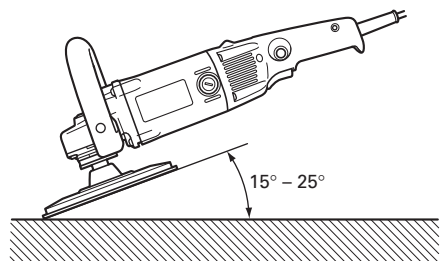

Fig. 3
2. Rather than applying the entire disc surface to the metal surface to be ground, use the sander by inclining it approximately 15° – 25° to grind with the disc peripheral portion. (Fig. 3).